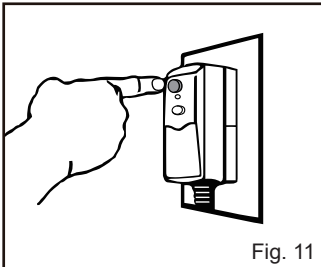

Fig. 11
- Unwind the power cord completely and plug the GFCI into a 120 volt outlet. Press the "TEST" button on the GFCI, power will be cut and indicator will fade. Do not use if this test fails. We recommend pressing the test button each time the pressure washer is used to ensure the protector works. Press the RESET button, the indicator light will come on when the power is on (Fig. 11).